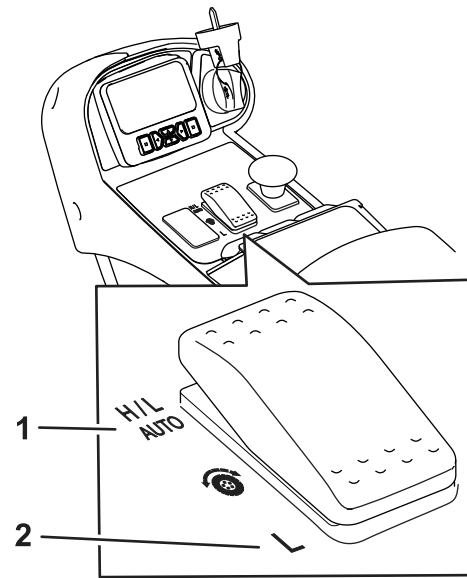

Figure 29
- Under normal operating conditions, this machine is intended to operate in the H/L AUTO position on the speed range switch (Figure 29). This position allows the machine to automatically switch between low and high speed ranges, depending on whether the machine is being used for mowing or transporting.
- When you select the Low position on the speed range switch (Figure 29), the machine will always
This machine is equipped with 2 traction speed ranges; low and high. The speed range switch allows you to select the following positions (Figure 29):